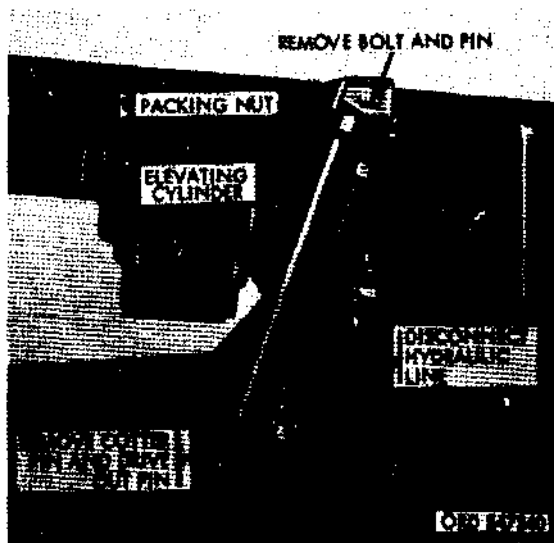

Figure 551. Boom elevating cylinder - removal and installation
404. Boom Elevating Cylinder (Fig. 551)
- (1) Disconnect hydraulic lines at cylinder port openings near bottom of elevating cylinder.
- (2) Use overhead hoisting equipment, or block boom assembly in a slightly raised or vertical position.
- (3) Remove bolt and pin (fig. 551) from upper end of cylinder. Remove cotter pin and drive out lower pin from cylinder.
- (4) Using chain hoist, lift elevating cylinder clear and remove from vehicle.
- (1) Using chain hoist, lift elevating cylinder and place in position on vehicle as shown in figure 551.